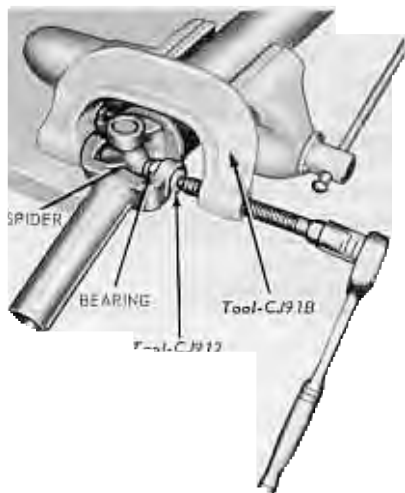

FIG. 2—Removing Universal Joint Bearing
5. Position the tool shown in Fig. 2 on the shaft and press the bear-